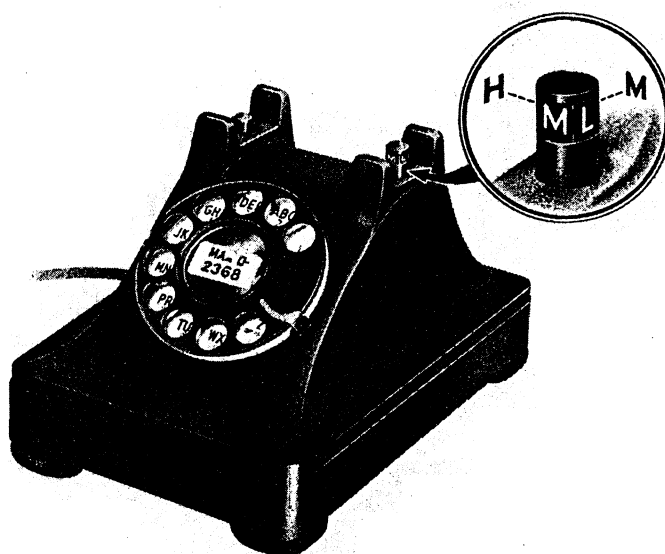

Fig. 10 — 332C or 334C Telephone Set — Exterior
2.09 The 332- and 334-type telephone sets, shown in Figs. 10 and 11, provide amplification for incoming speech by the addition of the 111B amplifier. The right-hand plunger serves as an on, off, and volume-control switch. The plunger can be rotated in either direction to select one of three volumes: low (L), medium (M), and high (H). The volume in use is determined by the designation facing the front of the set. These telephone sets require a 4-1/2-volt dc battery for operation of the amplifier. See the C Section entitled Dry Cell Batteries and Battery Boxes.